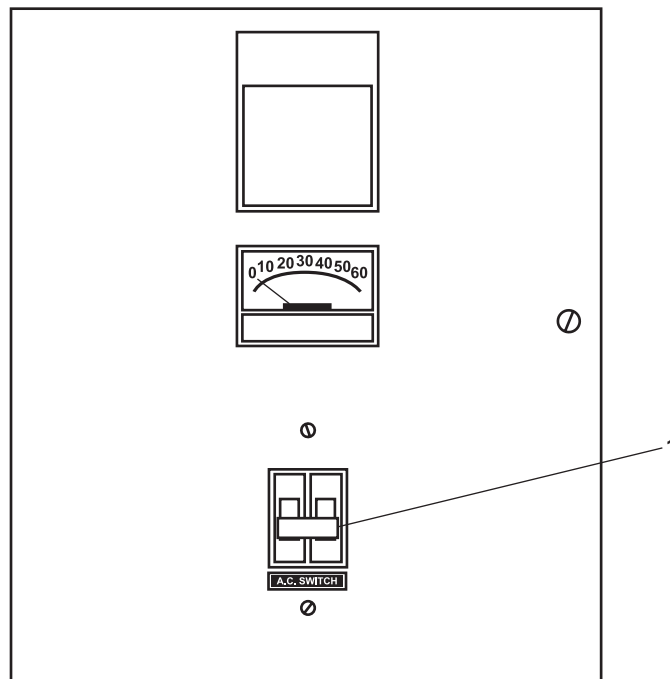

Figure 17. ROWPU Battery Charger
4. At the ROWPU battery charger, turn ON the A.C. SWITCH (figure 17, item 1).